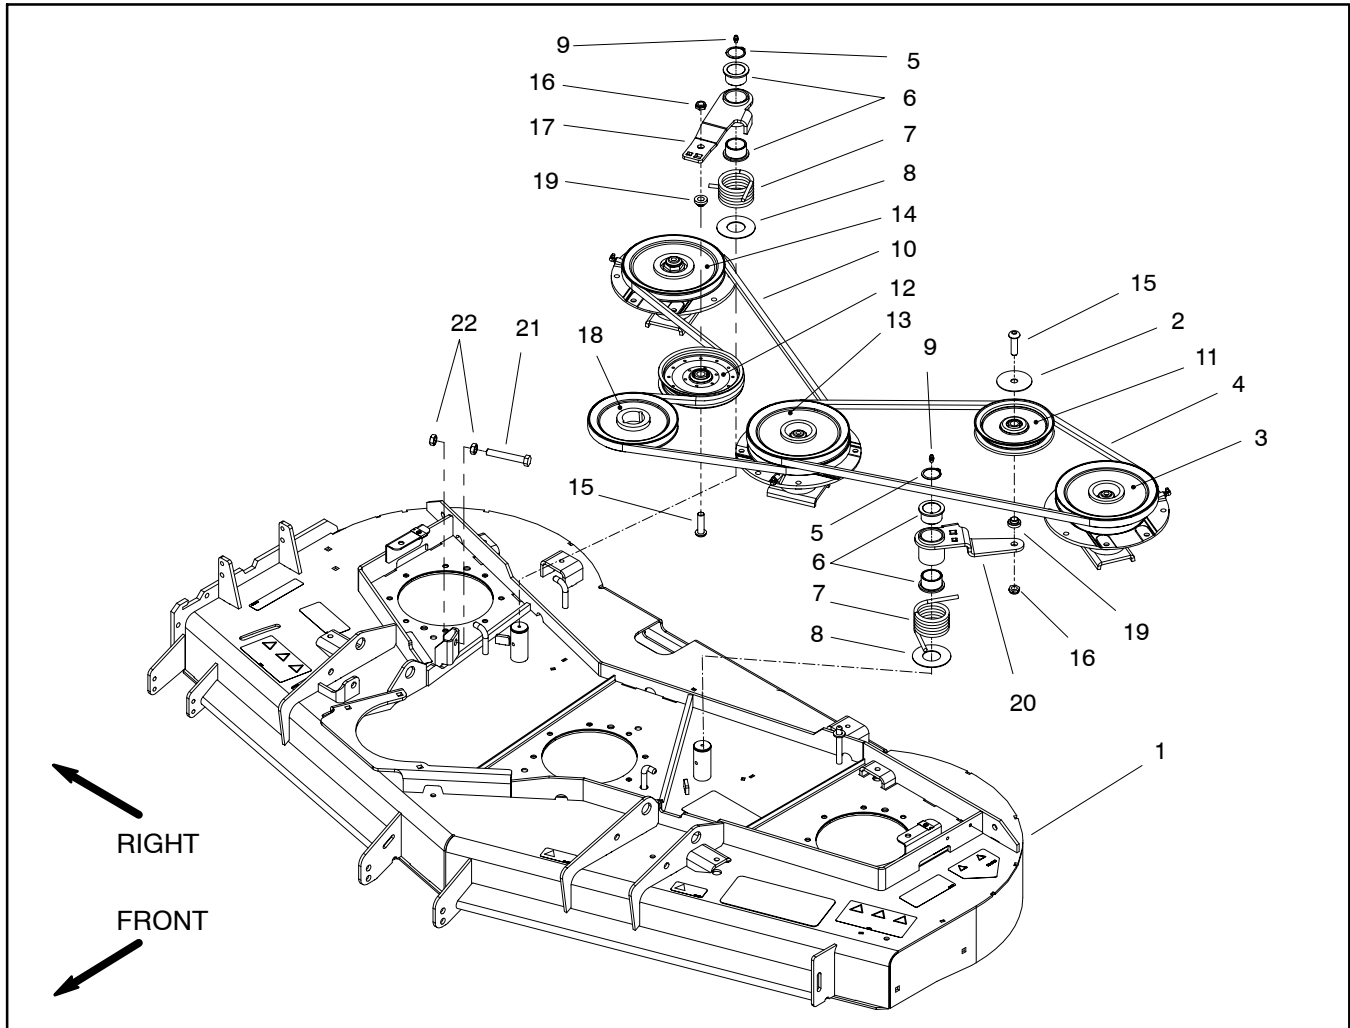

Figure 4
#### Removal (Fig. 4)
4. Loosen jam nuts (item 22) that secure idler stop bolt (item 21) to cutting deck to allow clearance between idler and stop bolt. Remove drive belt from deck pulleys.
8. Remove idler components as needed using Figure 4 as a guide.
#### Installation (Fig. 4)
1. Install removed idler components using Figure 4 as a guide. Secure idler arm assembly to cutting deck with snap ring.